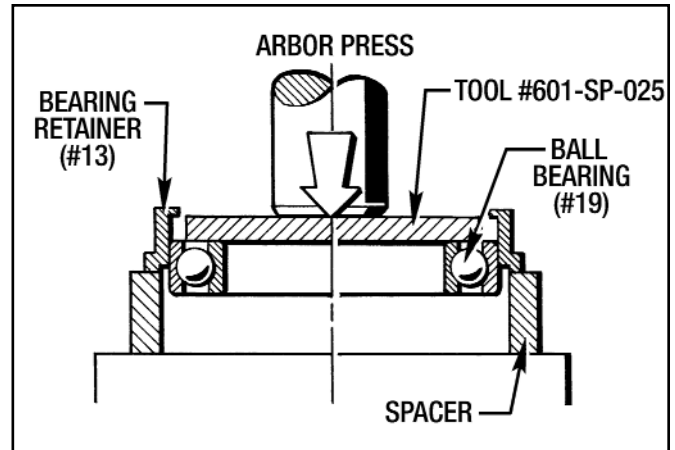

Figure 6.10 - Removing Ball Bearing (#19) from Bearing Retainer (#13)
4. Use Tool #601-SP-025 to press the Ball Bearing (#19) out of the Bearing Retainer (#13). (See *Figure 6.10*)